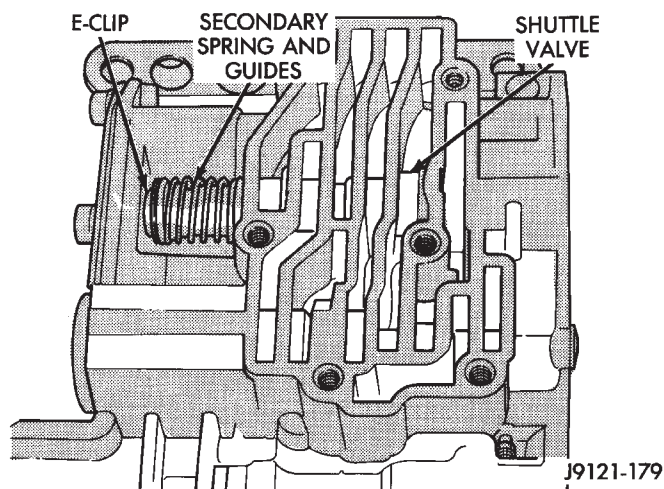

Fig. 112 Shuttle Valve E-Clip And Secondary Spring Location
(2) Remove E-clip that secure shuttle valve secondary spring on valve stem (Fig. 112).